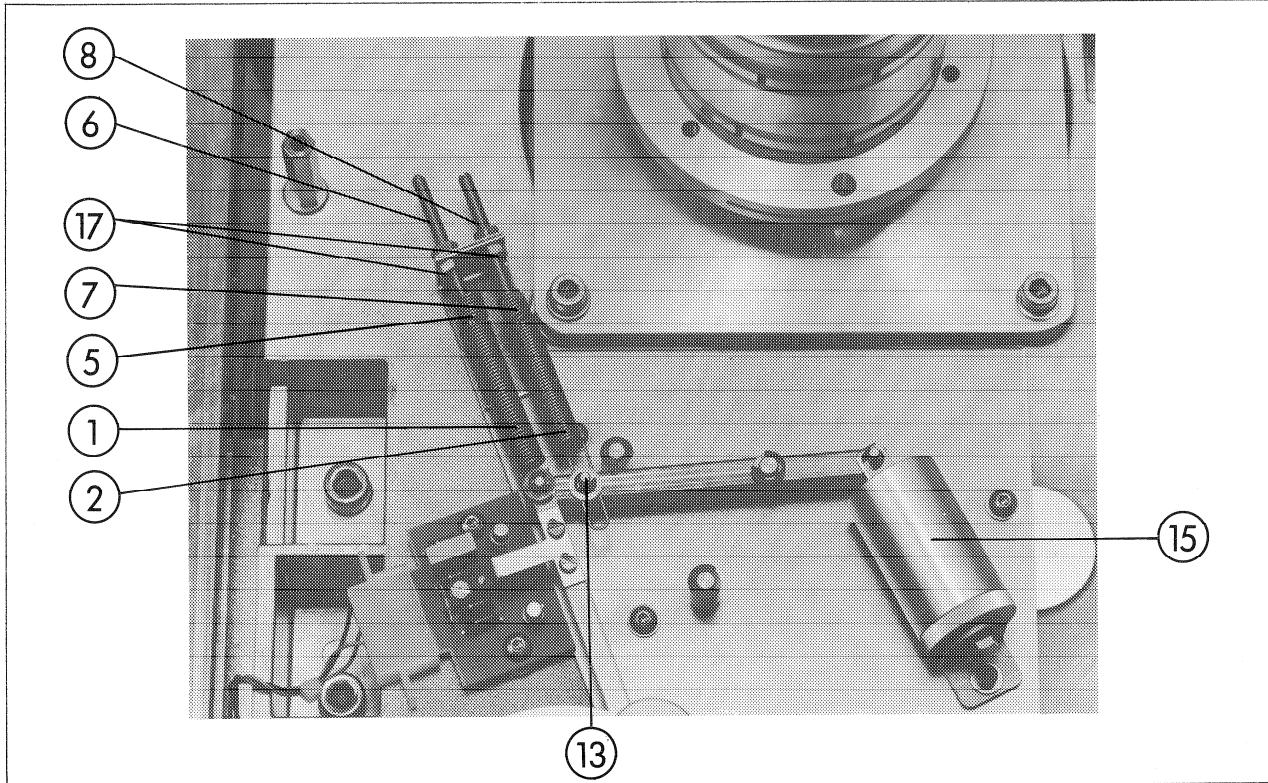

Figure 18
Adjust springs (2) and (4) in such a fashion (or unhook) so that they do not engage with an angle of rotation of less than 40° (Figure 18/19).